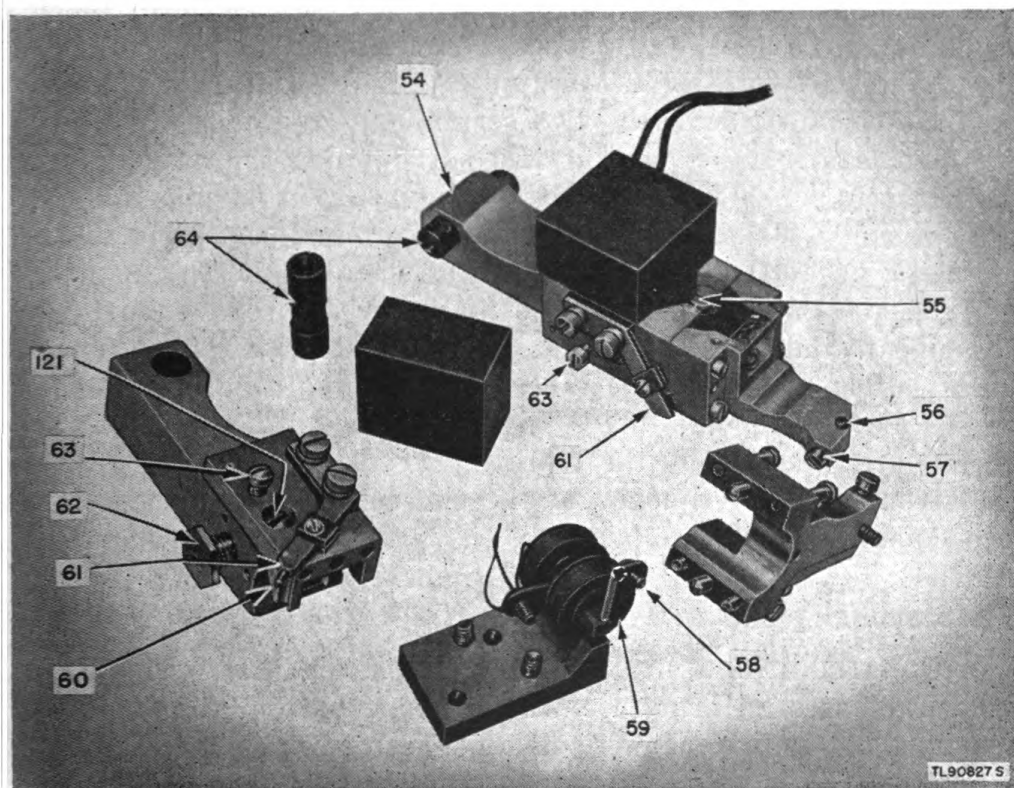

Figure 32. Recording head, disassembled.
(8) *Recording head* (fig. 32). Disassemble as outlined in paragraph 93. Clean and apply a thin film of GL to the recording-head-hinge-pivot pin bearing (64) when reassembling.
a. CONSTRUCTION AND CHARACTERISTICS (fig. 32). The recording head is of a balanced-armature magnetic type. The armature (the part which holds the recording needle) is rigidly fastened at its center to a flat phosphor piece which is fastened to the casting. The armature (58) operates between the poles of a permanent magnet (55) surrounded by two coils (59) which are connected in series. The d-c resistance of the coils is  $1\frac{1}{2}$  ohms. The impedance is 6 ohms at 1,000 cycles. The frequency range is from 150 to 3,500 cycles per second. The driving power
*Note.* The construction and parts used in the recording head on Sound Recording Set AN/UNQ-1A differ slightly from that used in the recording head on Sound Recording Set AN/UNQ-1. The principle of operation is the same. Figure 32 shows the parts of the recording head used on Sound Recording Set AN/UNQ-1A.